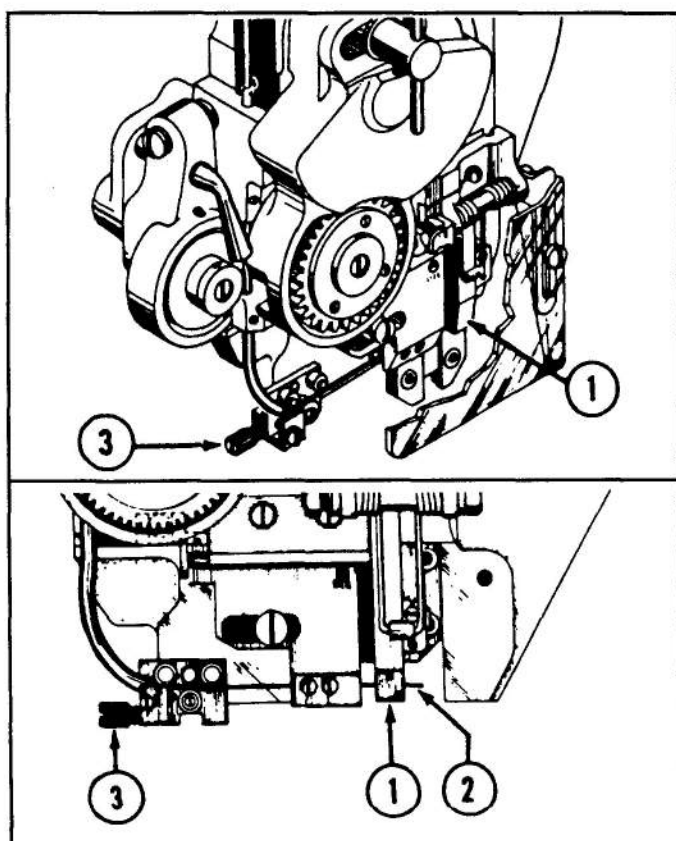

Figure 3 — Straightening Wire on Head
(See Fig. 3)
a. After wire has been threaded into head, as directed in para. 1, immediately preceding, turn over machine by hand until wire has been cut and is being held by the gripper (1). Observe that the wire length being held by the gripper does not curl upward or downward; the cut wire length should be as close to a straight line as possible, as shown at (2) in insert in Fig. 3.